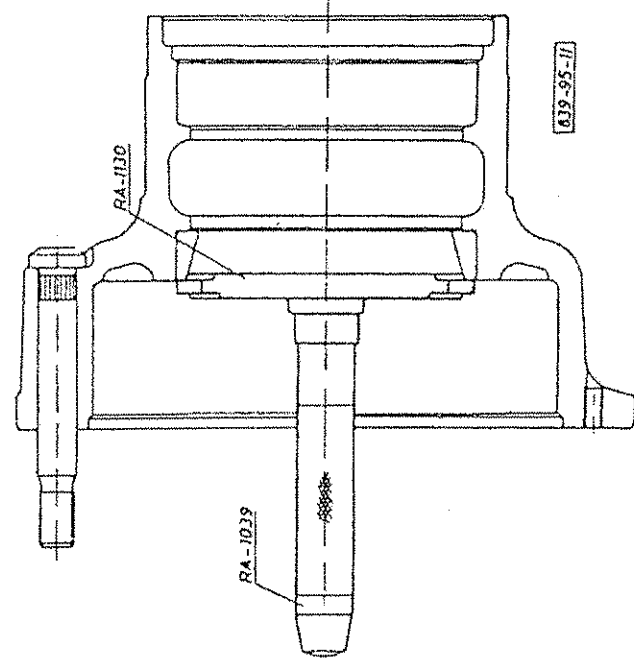

Fig. 2: PRESSING IN THE CUPS OF THE TAPER ROLLER BEARINGS
By means of the tools shown in Fig. 2, press the cup of the outer taper roller bearing (34) into the wheel hub. Turn the wheel hub over and by means of the same tools press in the cup of the inner taper roller bearing (32), as well.